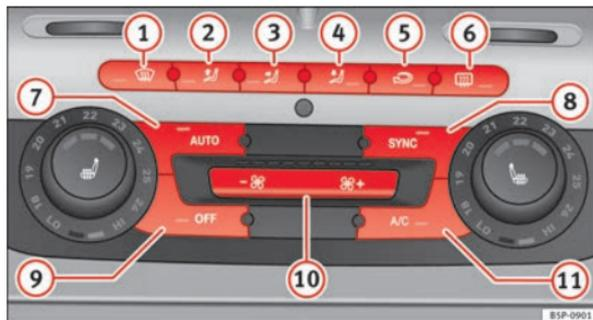

Fig. 128 On the dash panel: 2C Climatronic controls.
- Turn the temperature control knobs ⇒ Fig. 128 to adjust the temperature on the left hand side or the right hand side respectively.
- Press the **AUTO** ⇒ Fig. 128 button. “AUTO High” is shown on the radio display (high fan speed).
- Press the **AUTO** button again ⇒ Fig. 128. “AUTO Low” is shown on the radio display (low fan speed).